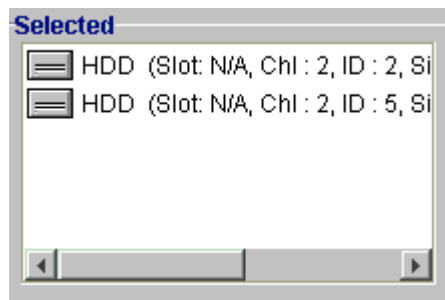

Figure 8-4: Selected Logical Drives
Step 2. After clicking the “Add” (or “Add All”) button, the drives that were selected will be removed from the “Available” menu and appear in the “Selected” window on the right hand side. See *Figure 8-4*.